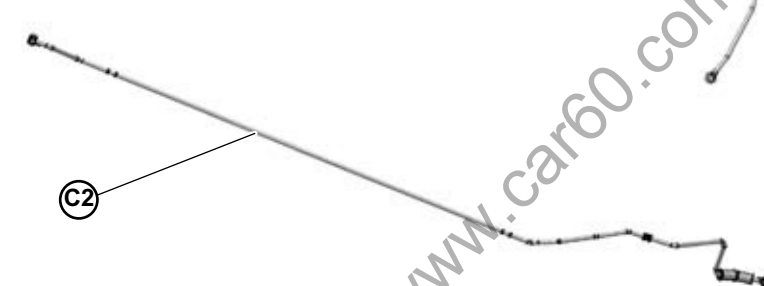

Fig.21
7. Remove and extract the **C1** and **C2** power steering circuit pipes (**Fig.21**).